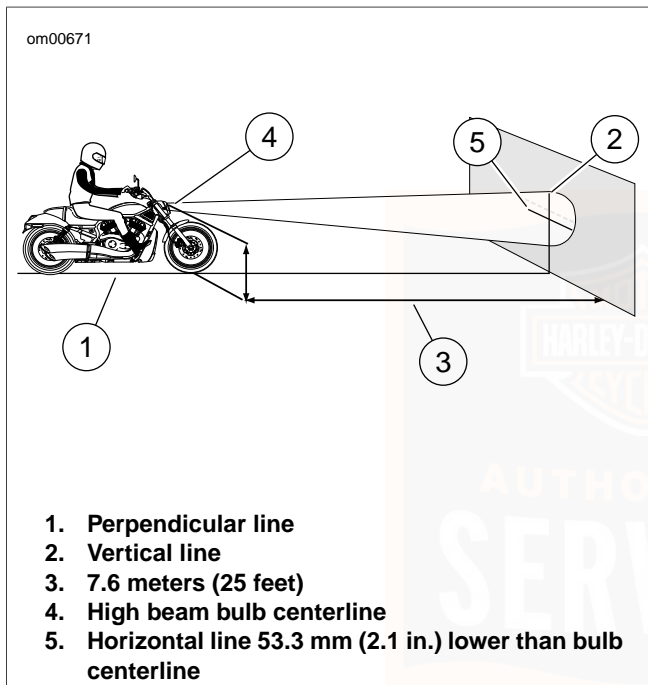

Figure 48. Headlamp Alignment: VRSC Models
See Figure 48. To aid in properly placing the motorcycle, a perpendicular line (1) can be drawn on the floor. For best results, choose an area with minimum light.
3. See Figure 48. Draw a vertical line (2) on the wall.
7. See Figure 48. Verify headlamp alignment. Turn the ignition switch to IGNITION and set the headlamp switch to HIGH beam.